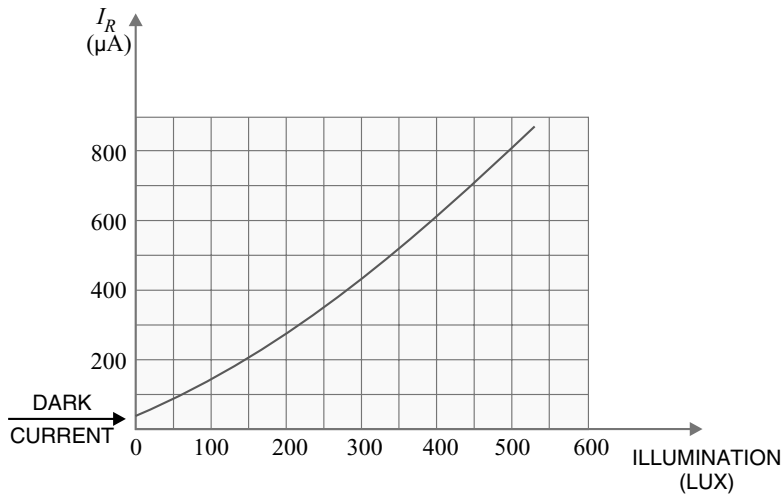

Fig. 5.18
**Example 5.5.** From the reverse current-illumination curve for a photo-diode shown in Fig. 5.18, determine the dark resistance. Assume a reverse-biased voltage of 10 V.
**Solution.** The current that flows when the incident light is removed from the photo-diode is called *dark current*. The resistance of a photo-diode corresponding to dark current is called *dark resistance*. From the curve shown in Fig. 5.18, it is clear that for zero illumination, the reverse current is 50  $\mu\text{A}$ .